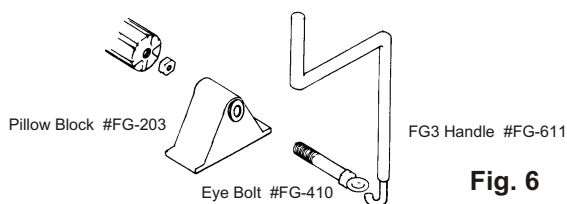

Fig. 6
- Wind the eye bolt fully into the tube end plug at the handle end. Using a wrench, tighten the nut **against the tube plug** (see Fig. 6).